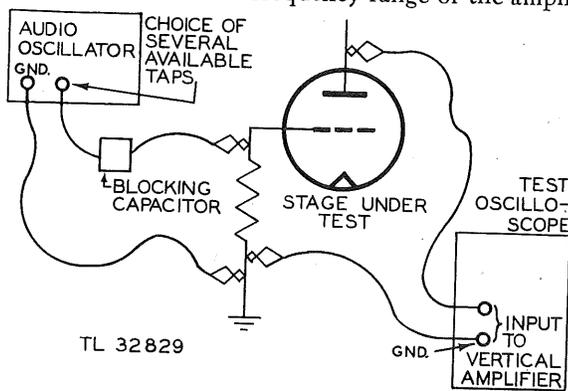

Figure 20. Test oscilloscope, signal output applied to vertical deflecting plates.
a. In view of the extremely wide field of application of cathode-ray oscilloscopes, only limited applications of these oscilloscopes to Radio Set SCR-268(*) will be considered. In this connection it is important to observe waveforms. Figure 20 illustrates the method by which waveforms in the plate circuit of a tube can be taken. The frontispiece shows a signal generator and a test oscilloscope being used to align the i-f stages of a receiver. To make such observations, the waveform-voltage source of the points across which the voltage waveform is to be observed, is applied to the vertical deflecting plates and an internal sweep or voltage varying *linearly* with time is applied to the horizontal deflecting plate as a time base. The true waveform of the signal voltage can then be observed without distortion, inasmuch as none is introduced by the horizontal-deflection voltage. A thyratron gas tube is usually used to generate the linear or saw-tooth voltage which is used for the sweep voltage. This type of voltage is essential since it is necessary for the electron beam to sweep across the screen at a *constant* rate of speed and *instantaneously* return to the starting point. The time for the return of the electron beam may be referred to as the fly-back time. If the sweep is